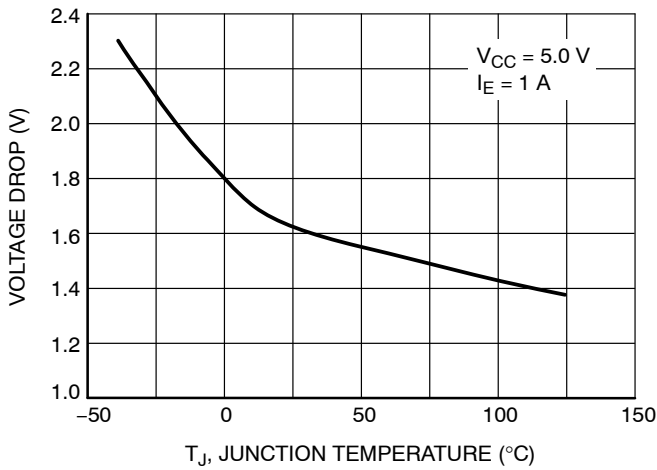

Figure 7. Emitter Follower Configuration Output Darlington Switch Voltage Drop vs. Temperature
8. V_{SWCE} – Darlingon Switch Collector to Emitter Voltage Drop, refer to Figures 7, 8, 9 and 10.